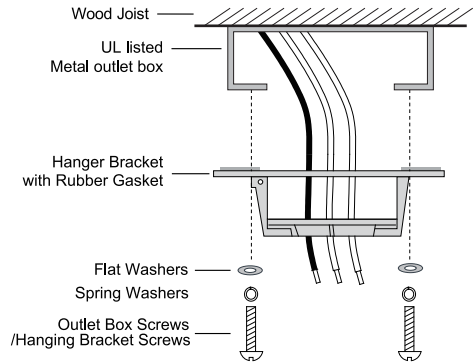

Fig.5
Step 1. Secure the hanger bracket to the ceiling outlet box using screws and washers included with mounting hardware. (Fig.5)
2. Pass the 120-volt supply wires through the center hole in the ceiling hanger bracket as shown in Fig.5.